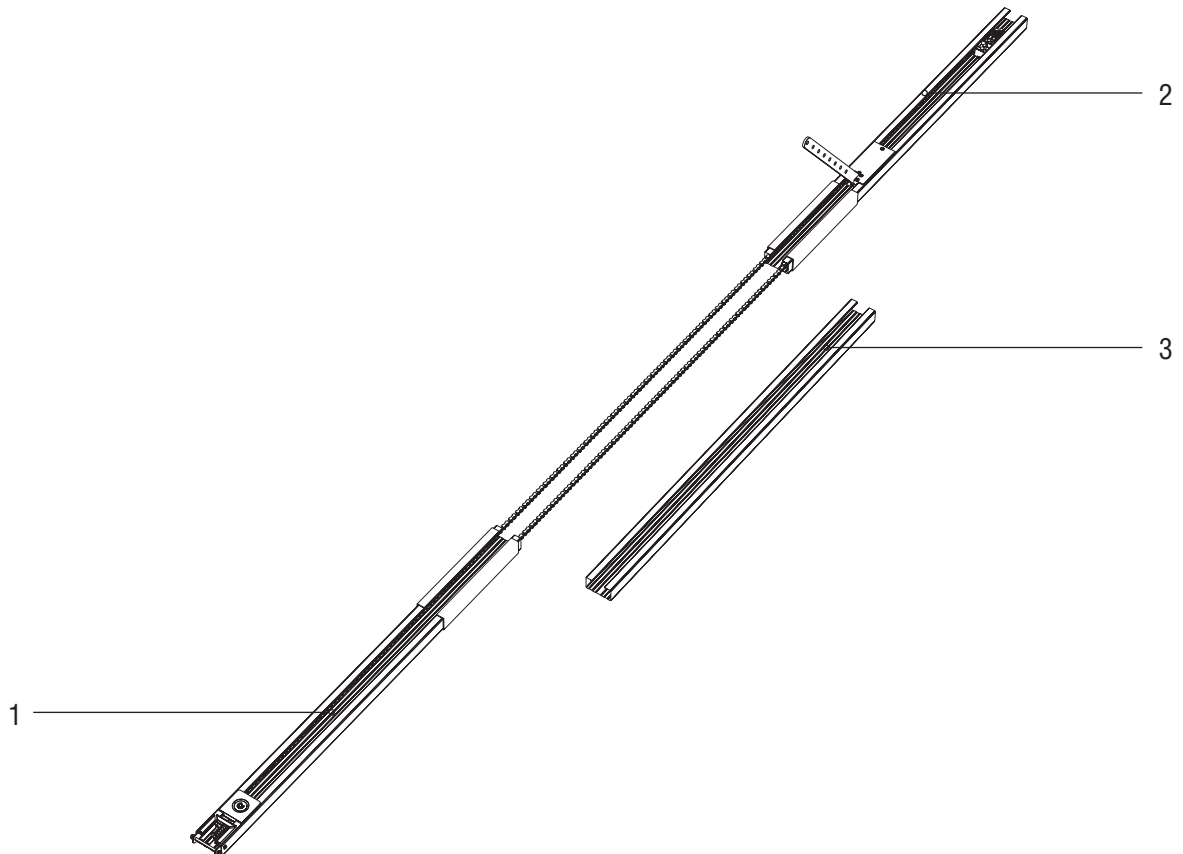

Figure 2
2. Place structure elements 1, 2, 3 along one line as in (fig. 2).